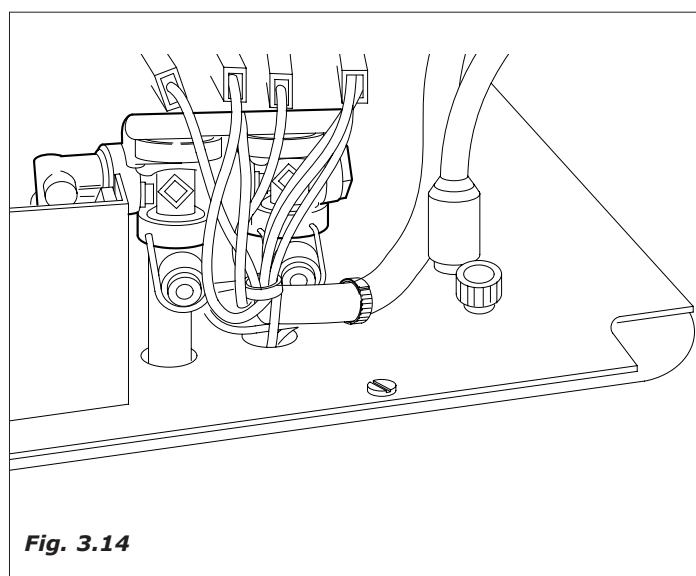

Fig. 3.14
Only in the versions equipped with cooling unit (F), this process, is the same as that for the preparation of the instant hot beverages, except that the dispensing of the water that is withdrawn through the activation of an electrovalve assembled on the cooling unit (Fig.3.14).